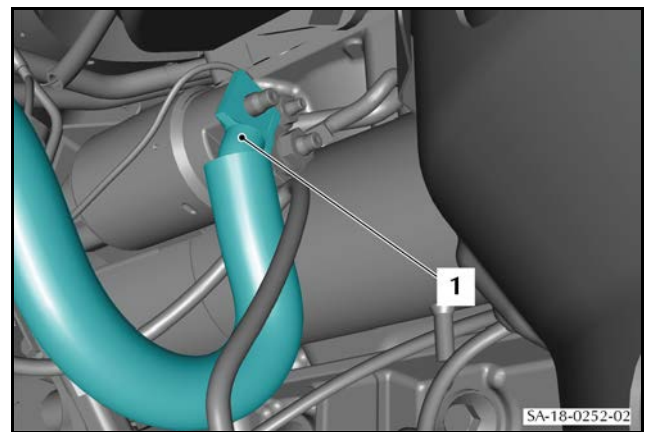

Figure 2
6. Remove the battery cable (1) from the stud on the solenoid (refer to Figure 2).